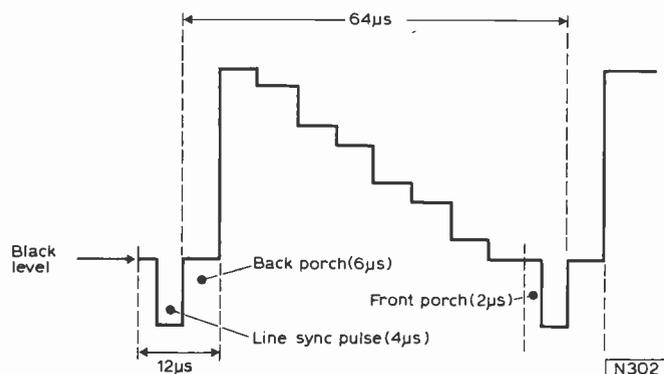

Fig. 1: The grey scale video signal. Each step lasts approximately  $6.5\mu\text{s}$ .
One line of a 625-line video signal is shown in Fig. 1. The video information is a descending staircase waveform and is the luminance (Y) signal of the 8-step colour bars, each bar being about  $6.5\mu\text{s}$  in duration.